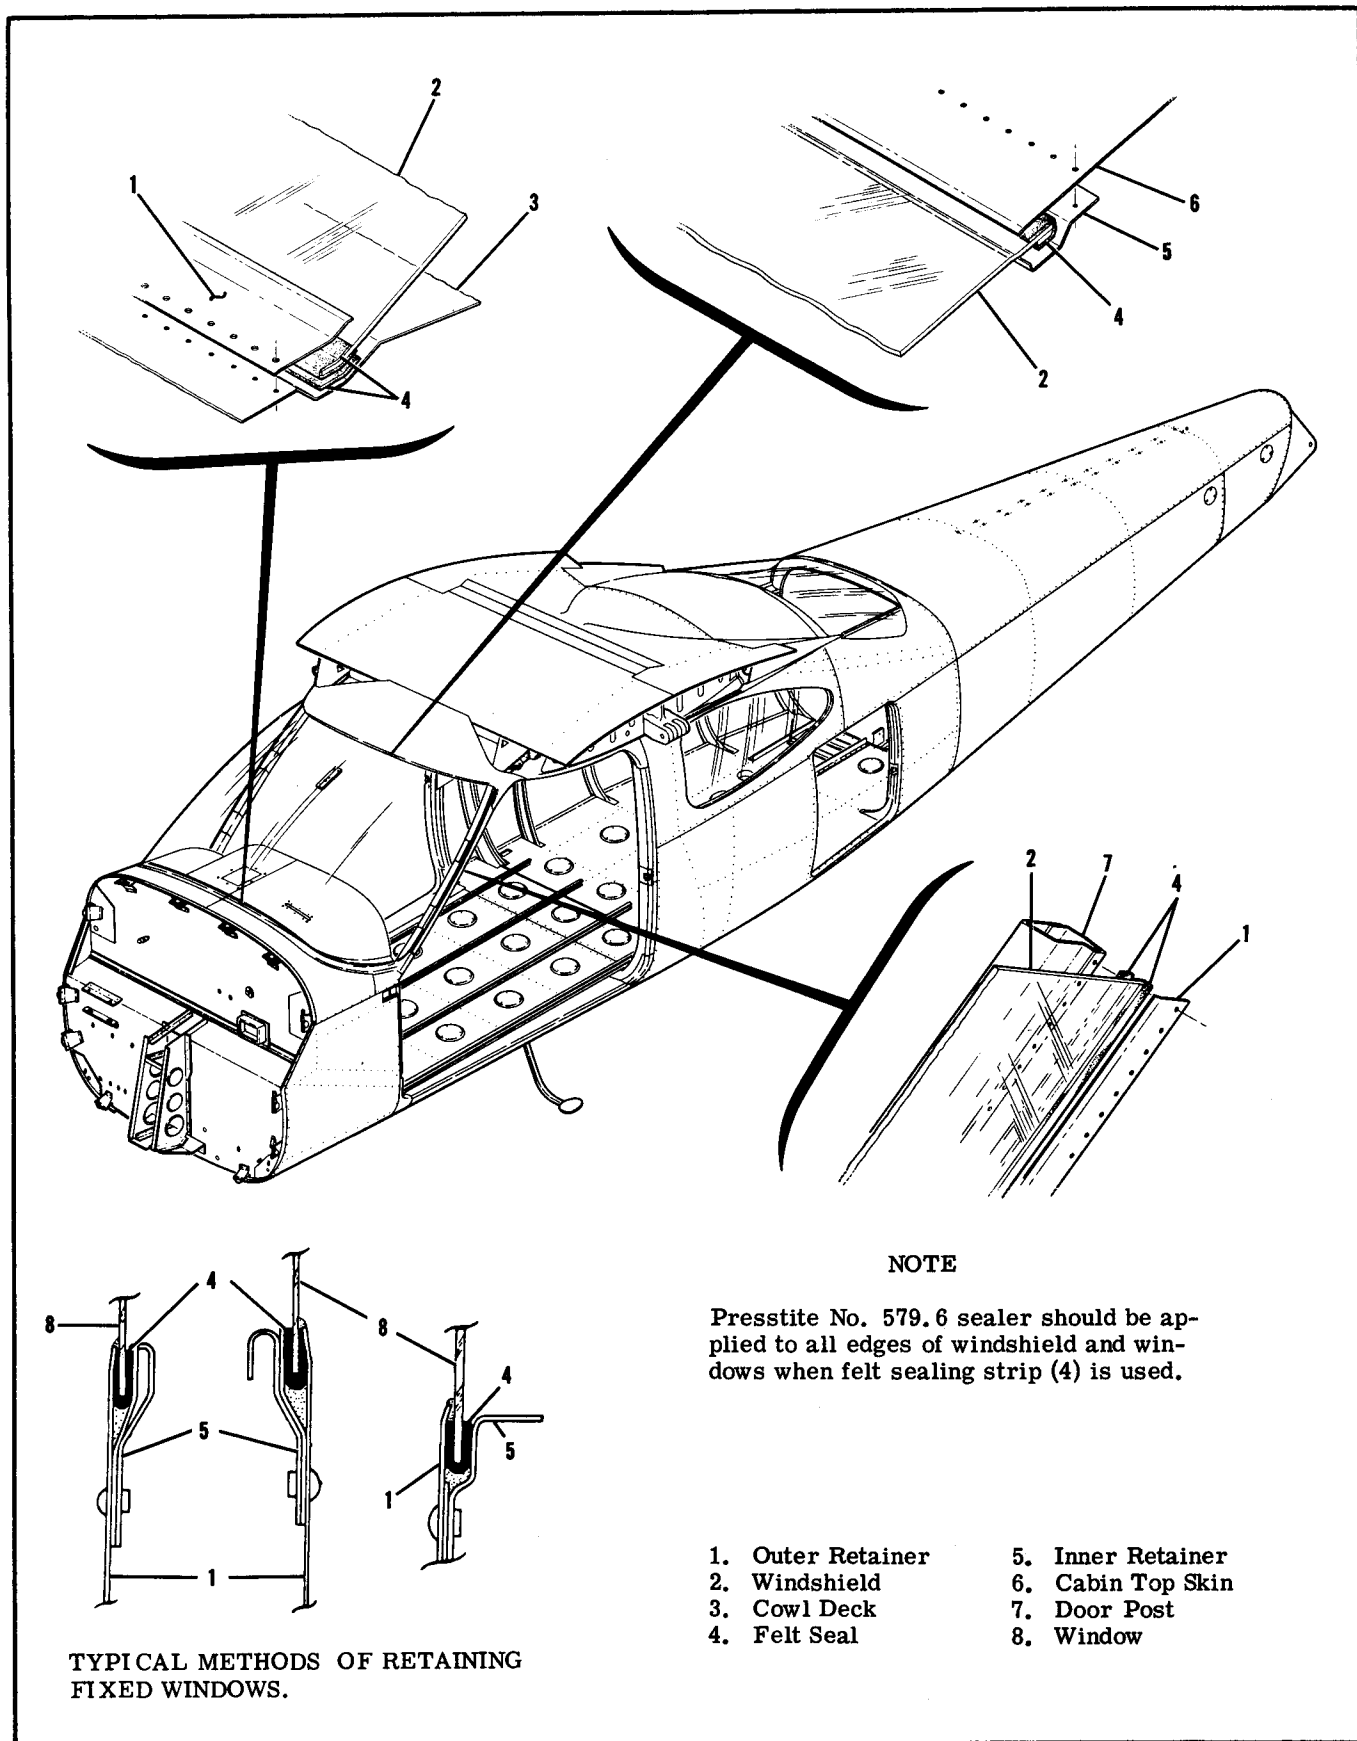

Figure 3-2. Windshield and Fixed Window Installation
3-9. WINDSHIELD. (Refer to figure 3-2.)
3-15. WRAP-AROUND REAR. (Refer to figure 3-2.) The rear window is a one-piece acrylic plastic panel set in sealing strips and held in place by retaining strips.
- a. SIDE WINDOWS. (Refer to figure 3-2.)